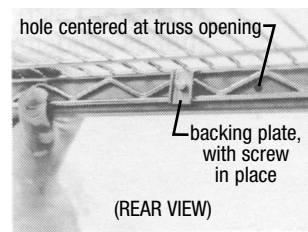

figure 2
- Starting with the top shelf, align the power strip so that the threaded holes are centered at truss openings (figure 2), and loosely attach with #10-32 screws and backing plates (figure 2). Repeat on remaining strips.